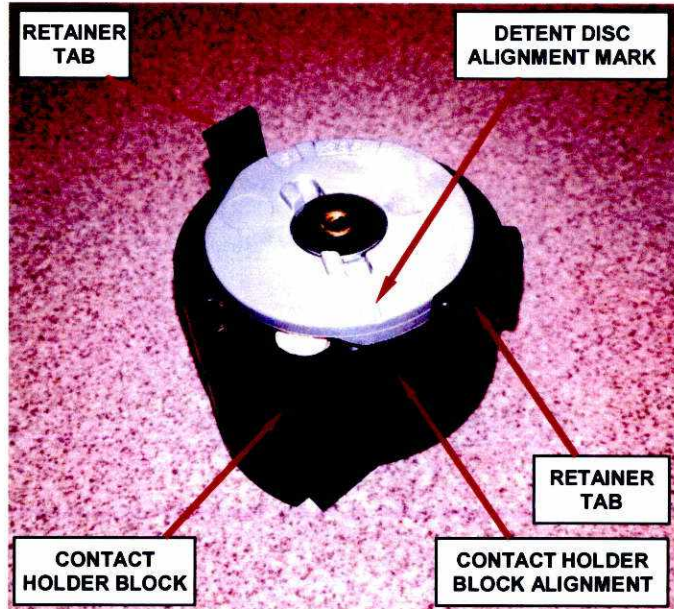

Figure 6 – Contact Holder Block Alignment Marks
12. Align the alignment marks on the new contact holder block (Figure 6).